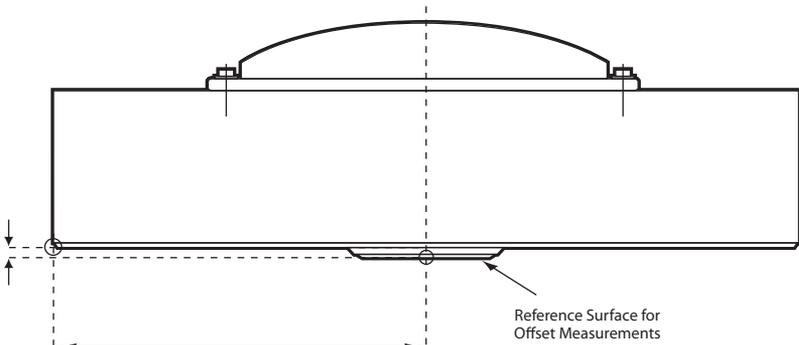

Figure 3-18. Measure Antenna Height – Example
1. Measure the antenna height above the control point or marker, either the slant height or the vertical height (Figure 3-18 on page 3-25).